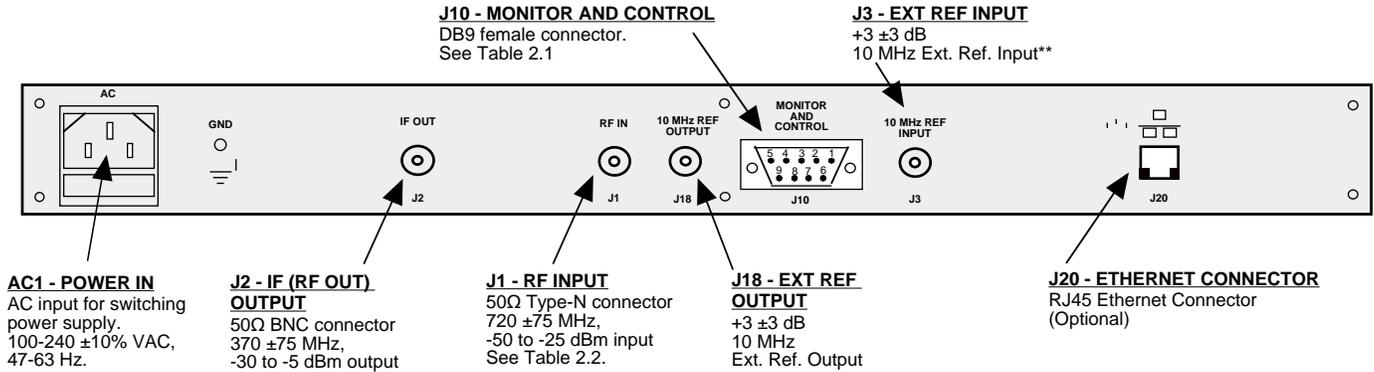

FIGURE 2.1 2083-0703 Rear Panel I/O's
Figure 2.1 shows the input and output connectors on the rear panel.
1. Connect a -50 dBm to -25 dBm signal to IN, J1 (Figure 2.1)